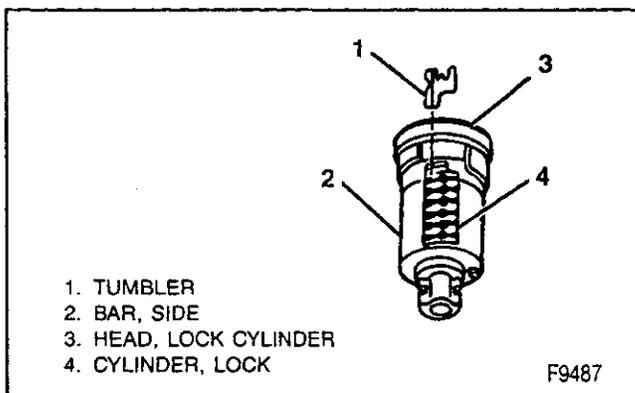

Figure 19—Installing Tumblers
**Assemble (Figures 19 and 20)**
2. Starting with position one (the open end or head of the cylinder), insert tumblers in their proper slots in the order called for by the code (figure 19).